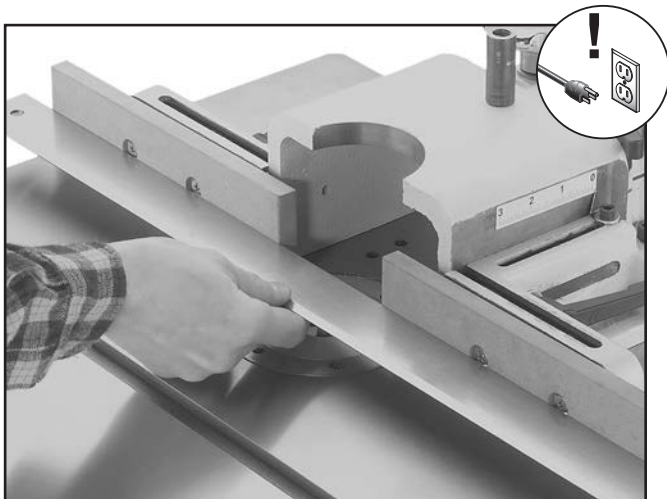

Figure 70. Example of aligning fence boards.
2. Make sure the fence boards are even with each other, then place the straightedge against both fence boards, as shown in **Figure 70**.